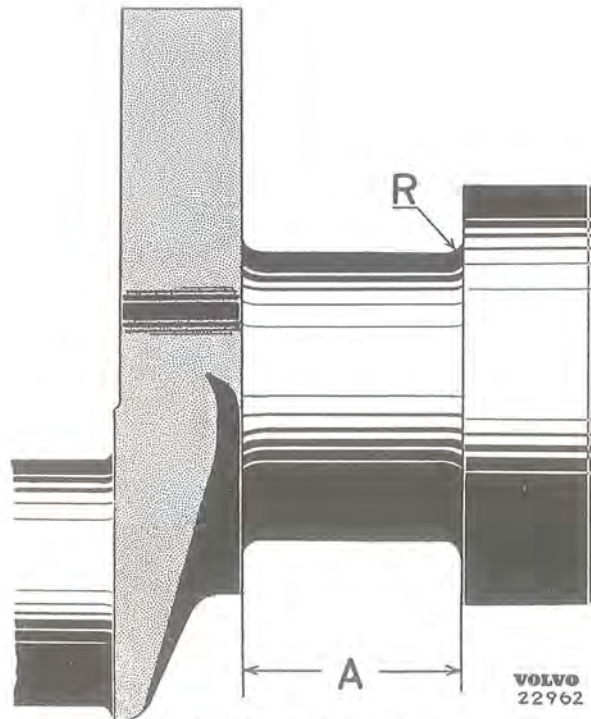

Fig. 2-27. Bearing journal
The fillets at the ends of the journals should have a radius of 2.0–2.5 mm (.080–.100") on all journals, see Fig. 2-27. The width measurement (A) for the pilot bearing depends on the size of the journal and should be ground in order to obtain the correct measurement.